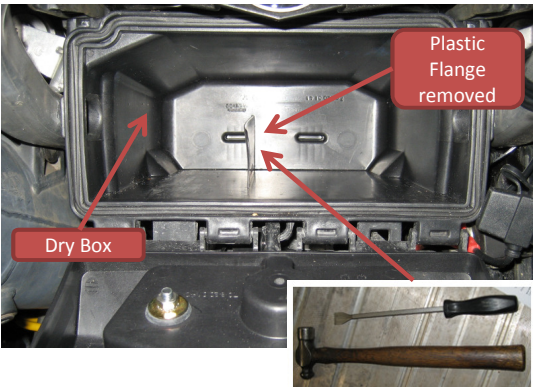

Figure 35
- Open the built in dry box (Figure 35)